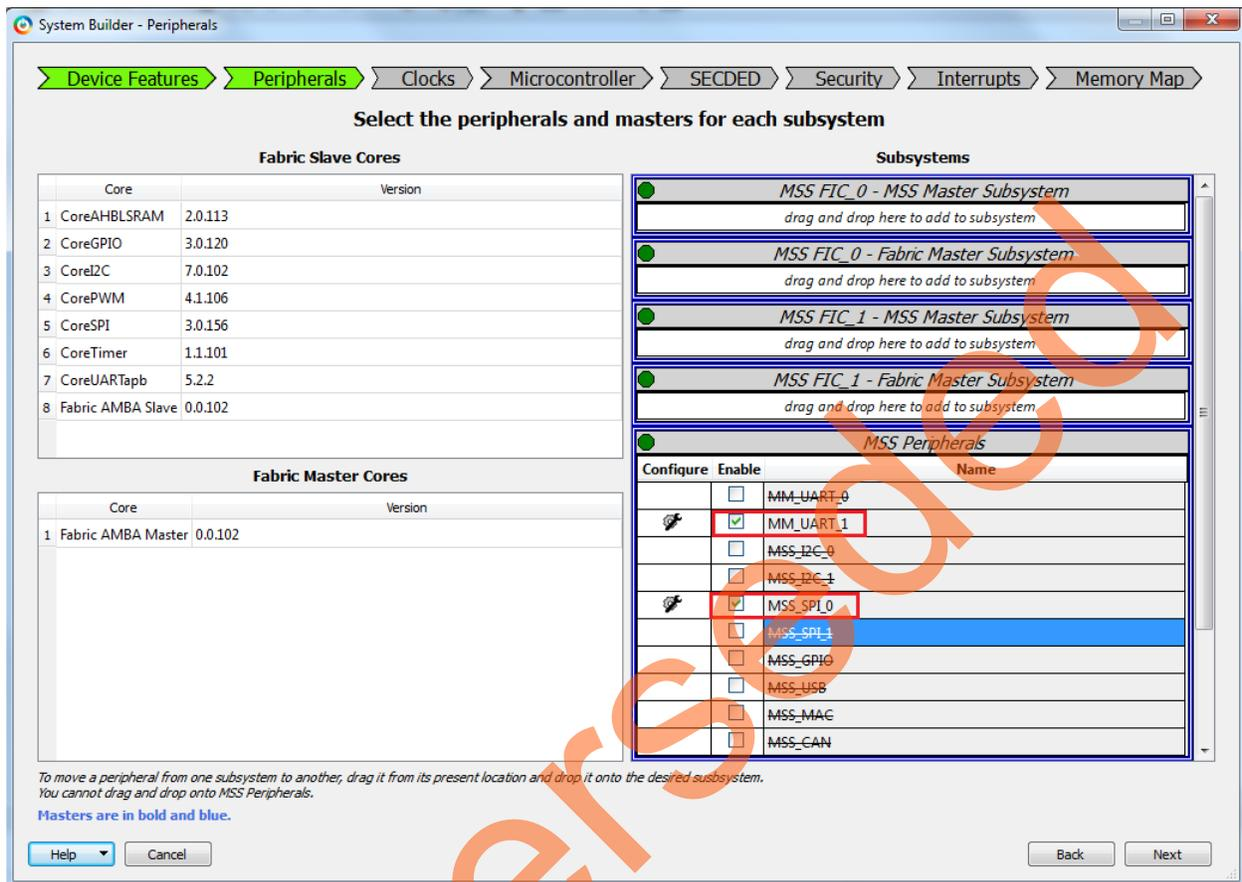

Figure 8 • System Builder Configurator – Select Peripherals Page
- Click **Next**, the **System Builder – Peripherals** page is displayed. Under the MSS Peripherals section, Clear all the check boxes except **MM_UART_1** and **MSS_SPI_0**, as shown in Figure 8.